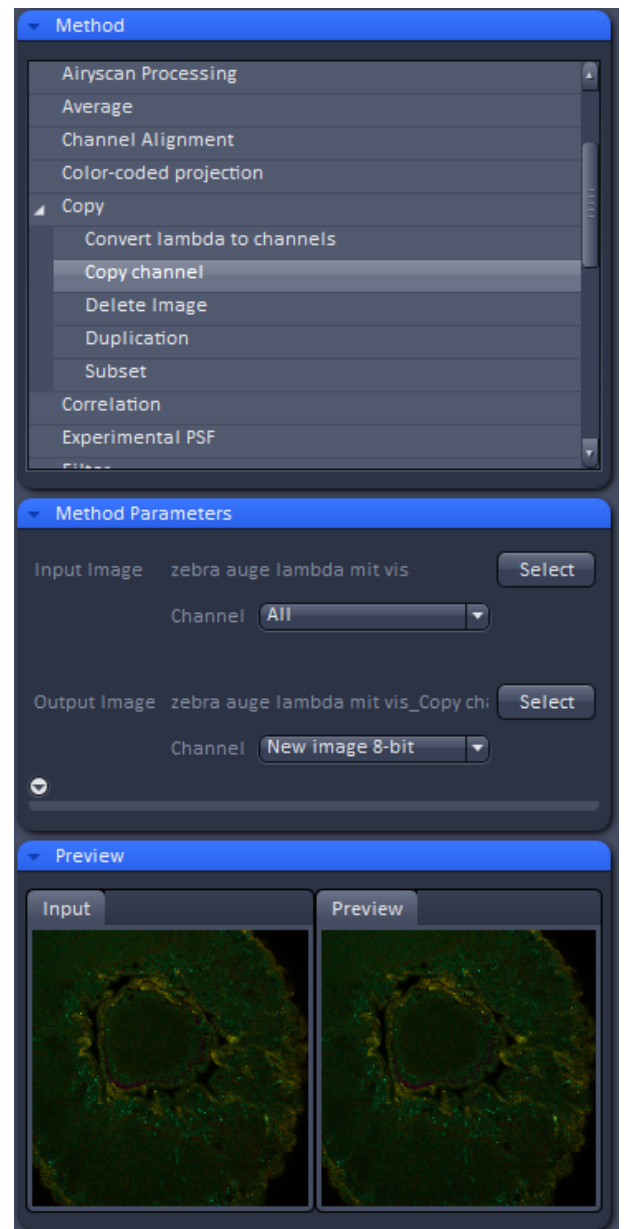

Fig. 425 Processing – Copy
**Convert lamda to channels** converts images acquired in Lamda Mode to multichannel images where each detector element represents a separate channel in the new image (Fig. 425). All view and processing options available for multichannel images apply to the new image.